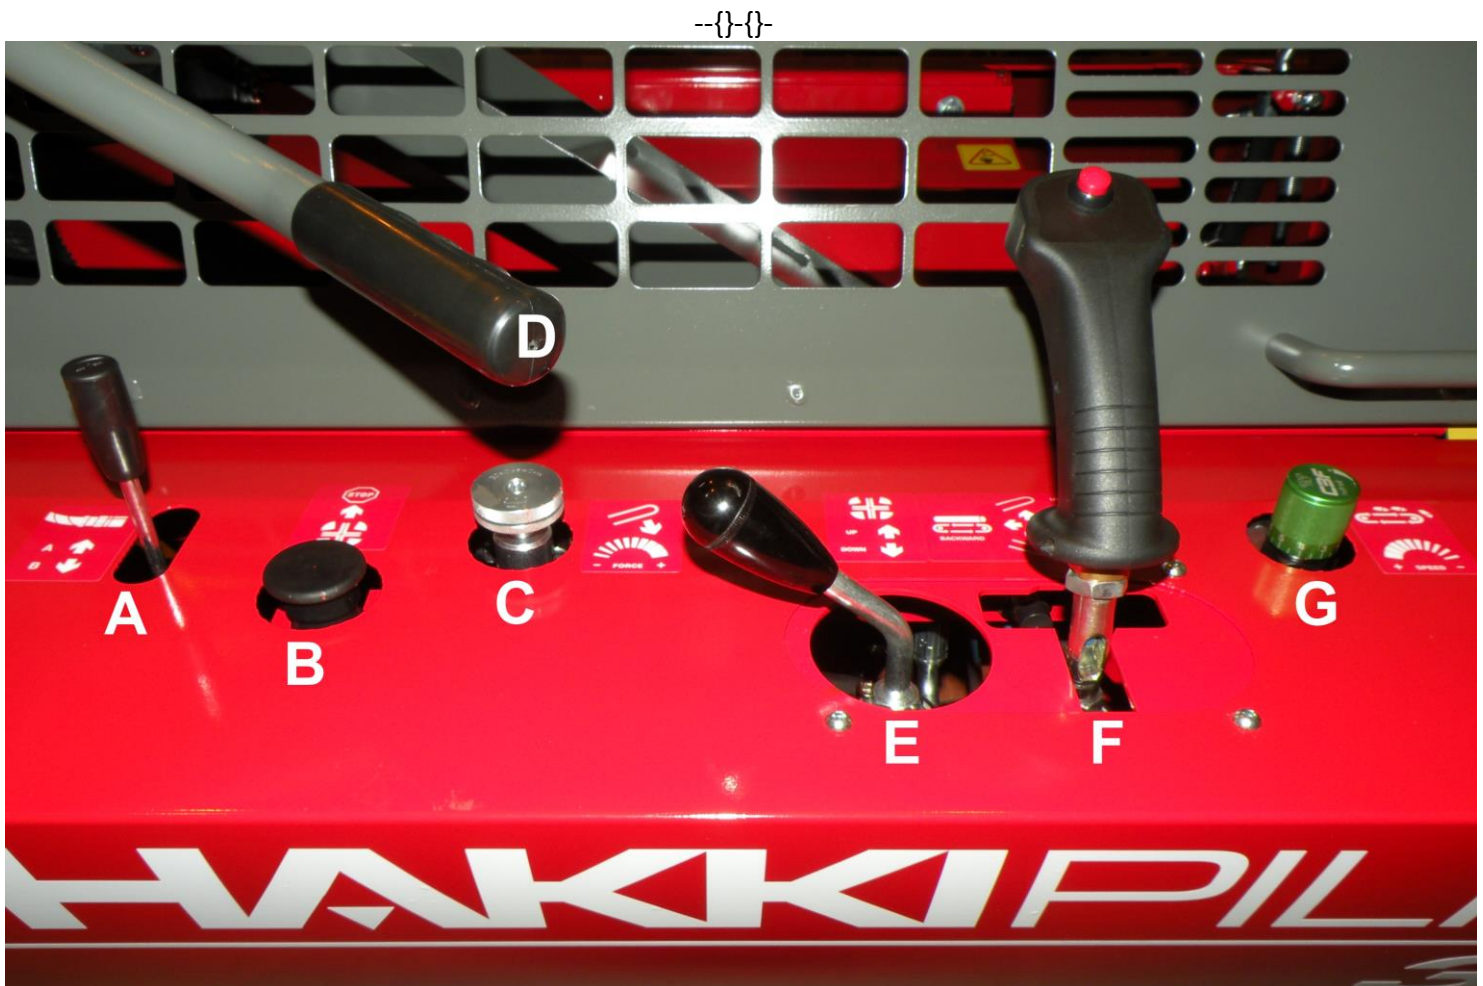

Figure 10. The control of the machine
Names and functions of the controls in Figure 10
The belt of the Hakki Pilke 38 Easy log splitter's output conveyor is driven by a hydraulic motor. To change the speed of the belt, use the adjuster G shown in Figure 10. The following describes how the conveyor can be turned laterally by using the turning lever A and handle B:
The splitting blade can be controlled hydraulically by moving the control lever E in Figure 10 up or down. Logs should always be as centred as possible when passing the blade in order to keep the size of the firewood consistent.
8. Start the splitting motion with the joystick F of the machine, shown in Figure 10, by lowering the cutting flange fully into the lowered position by lifting the joystick to the upper position. The splitting motion must be normal. The splitting motion can also be activated by pressing the B button of the joystick (as shown in Figure 11).
- a. Use the joystick F in Figure 10 to perform a few sawing motions without sawing any actual logs.
12. Make sure that the splitting beam returns to its initial position (in the middle of the splitting motion) by pressing button B (please see Figure 10).
13. Test run the input conveyor's feed and return motion with joystick F in Figure 10.
14. Start the output conveyor by using the control G (please see Figure 10) to adjust the speed to an appropriate level.
The input conveyor feeds the wood to be processed into the splitter. Push the joystick F in Figure 10 of Section 3.2 to the upper right direction to feed wood into the machine. The feed can be cancelled by pushing the joystick to the upper left direction.
3. Once the log stops for cutting in the mechanical measuring device, lock the log in place with the wood press by pressing the handle D of the press (please see Figure 10) downward.
Note! The splitting motion can be prevented by pressing the button B (Figure 10). This prevents the splitting motion from starting in any situation. The splitting motion can be re-activated by pressing the button B again.
Make sure that the downward motion of the cutting flange has not been adjusted (pressure regulating valve C in Figure 10 of Section 3.2) to be too fast in proportion to the size of the log.